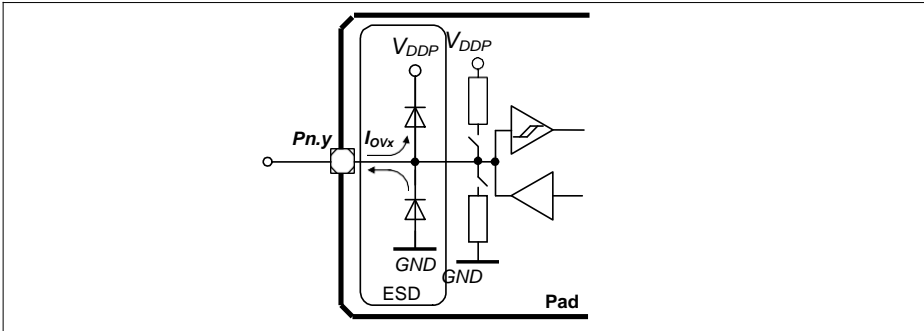

Figure 11 Input Overload Current via ESD structures
**Figure 11** shows the path of the input currents during overload via the ESD protection structures. The diodes against  $V_{DDP}$  and ground are a simplified representation of these ESD protection structures.